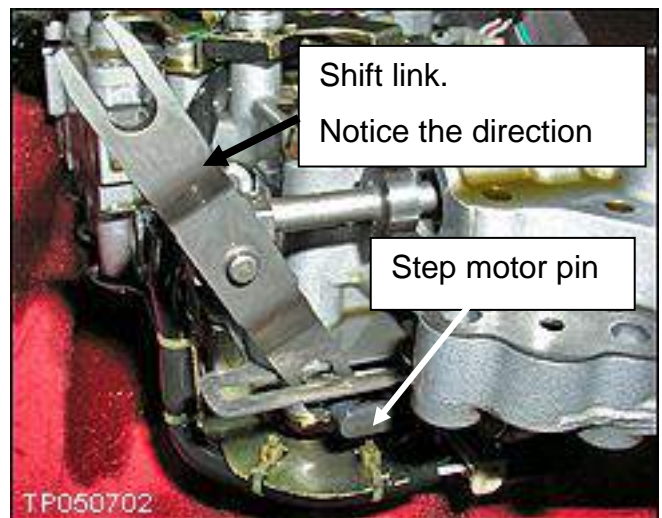

Figure 12
- Confirm (double check) the direction of the shift link and the bottom of the shift link around the step motor pin (see Figure 12).